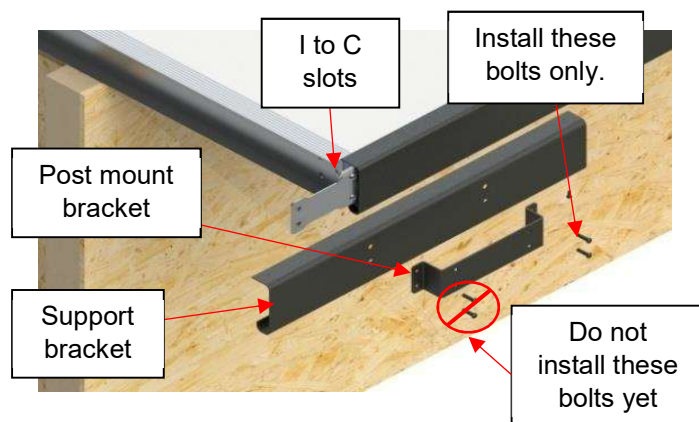

Figure 59
- 13) Align the holes of the support bracket, the post mount bracket and the C-channel by hand. Assemble them with the 1/4-20 x 1" hex drive rounded head screws (5/32" [4 mm]) (5 ft-lb torque). **DO NOT** install the bolts on the other end of the brackets yet (Figure 59).
- Make sure the I-beam is still free to move in the I to C slots (Figure 59).